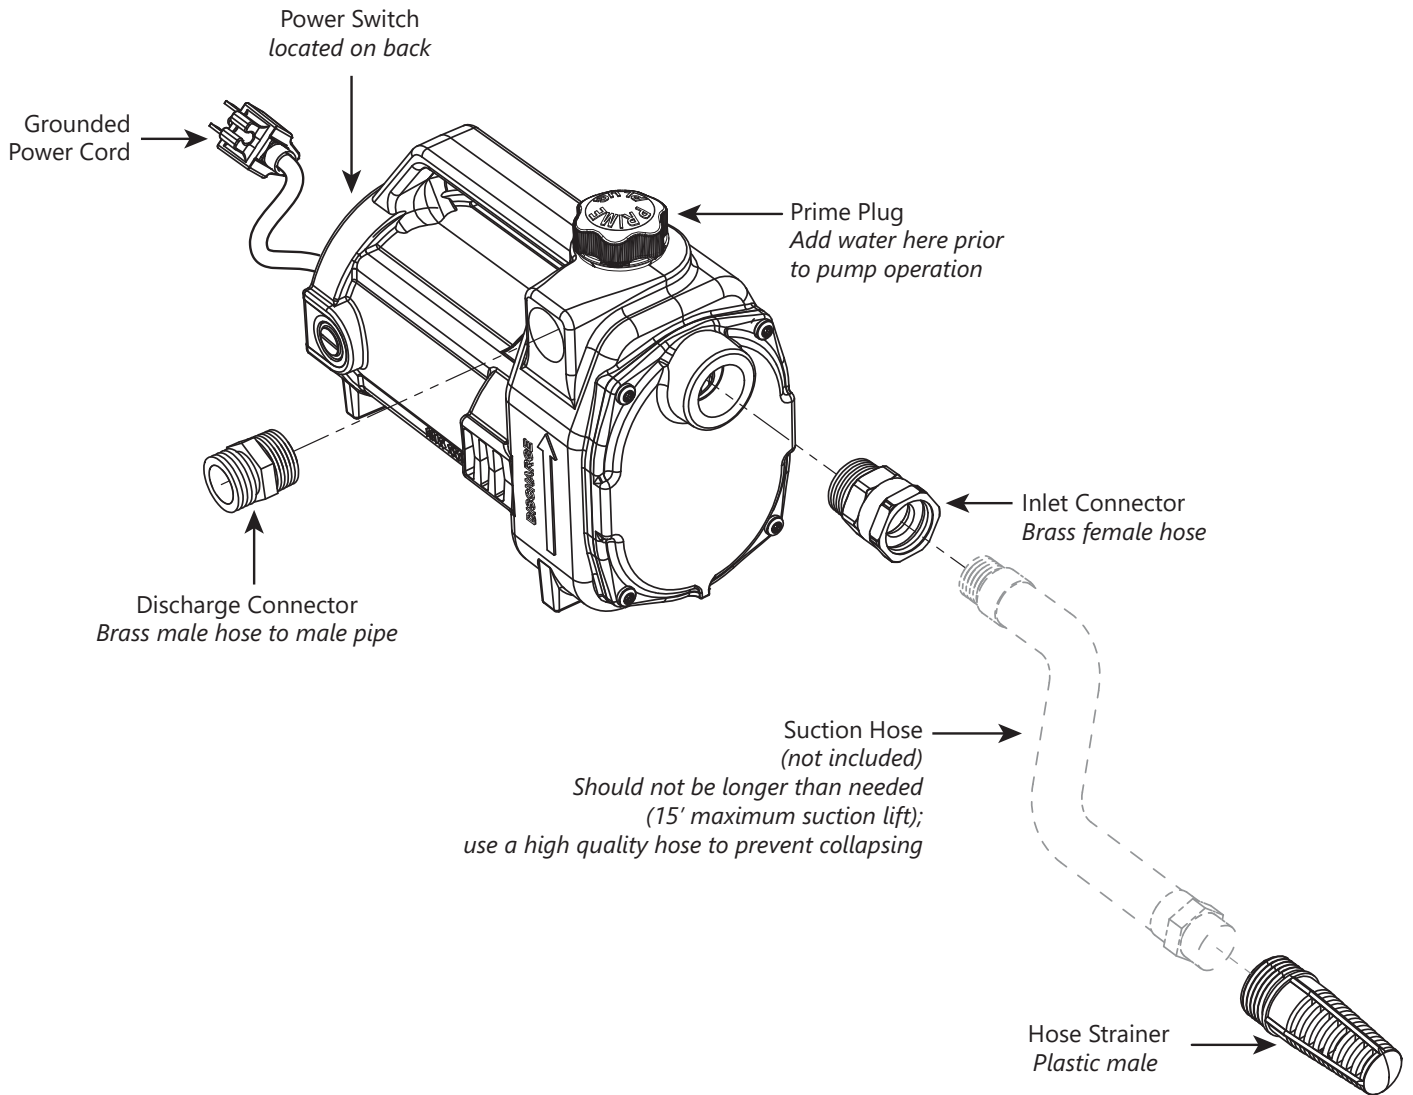

Figure 1. Transfer Pump Components
**IMPORTANT: Pump must be primed before operating** to prevent shaft seal failure. To do this, remove the prime plug (refer to Figure 1) and fill the housing with water (approx. 2 cups). Replace the prime plug (hand-tighten only).